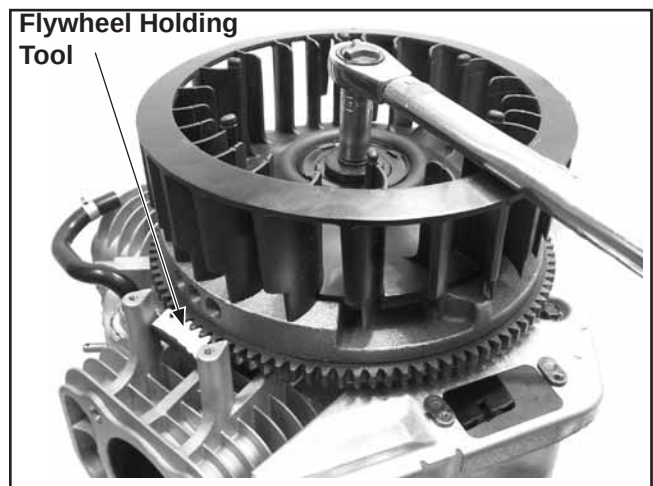

Figure 10-38. Torquing Flywheel Fastener.
5. Use a flywheel strap wrench or holding tool to hold the flywheel. Torque the hex flange screw securing the flywheel to the crankshaft to 74.5 N·m (55.0 ft. lb.). See Figure 10-38.